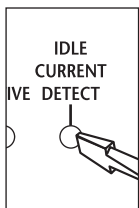

Figure 6
2. *Using a small jewelers screwdriver press the recessed “Idle Current Detect” button until the Active light illuminates, flashes twice, and goes off (Figure 6).*